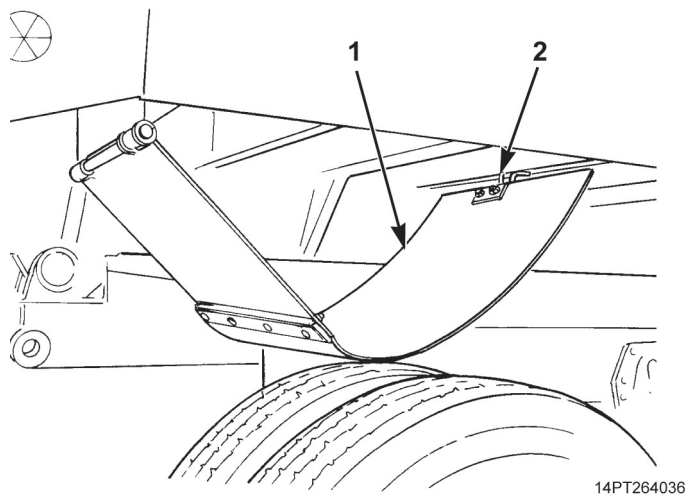

Figure 1. Securing Mud Flaps.
- c. Secure mud flaps (Figure 1, Item 1) out of the way on hooks (Figure 1, Item 2) when stockpiling or when dumping into a spreader.